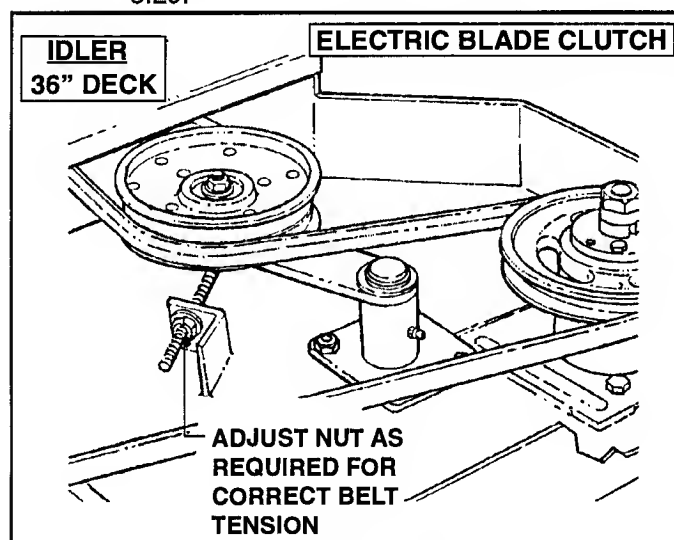

FIGURE 5.29
3. If Belt needs adjusting, tighten or loosen the Idler Pulley until Belt tension is correct. See Figure 5.29.